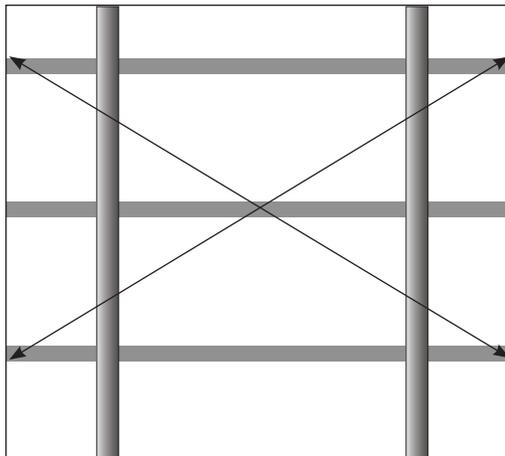

Figure 12: Verify Mounting Structure
- Verify the mounting structure is square. Refer to **Figure 12** and measure from the top corner of the top stringer to the opposite bottom corner of the bottom stringer. Repeat this process on the two remaining corners. Compare both measurements. If they differ by more than $\frac{1}{4}$ " , contact the project manager or mechanical systems engineer.